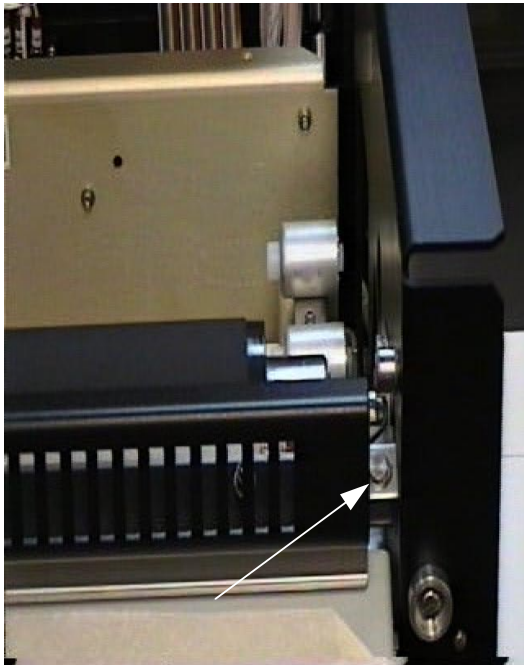

Fig. 1
- 3) Remove 10-32 hex screws (1 ea. side) that hold the long knife assembly into the plotter. (Fig. 1)